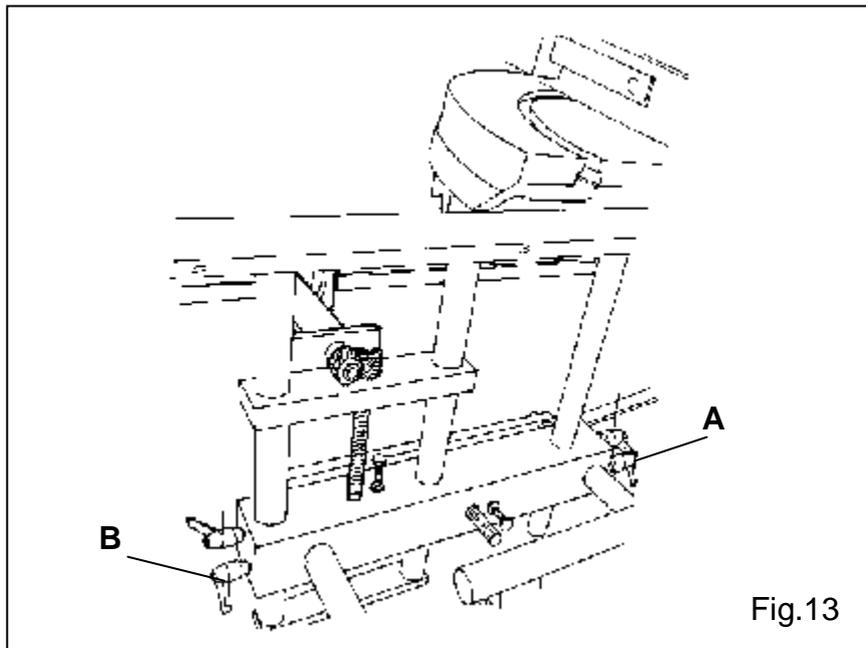

Fig.13
- Loosen jumper lift A (Fig.13) and jumper lift B (Fig.13)
- Lock jumper lift A and B (Fig.13).
**ATTENTION:** please check that when saw blade D comes closer (Fig.13) it does not cut the guides E then (Fig.13).